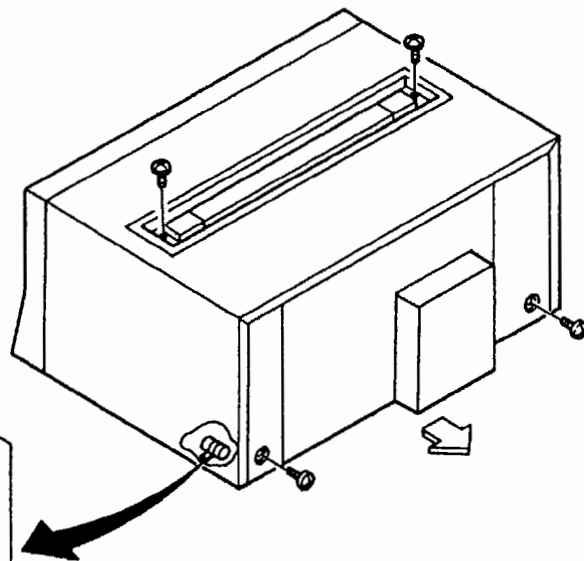

Figure 6.18
- (1) If the MAIN BAT error message is displayed while the power is turned on, replace the batteries.
- (2) Turn the power supply OFF and unscrew 4 screws; 2 on top of the recorder and 2 at the rear, using a Phillips screwdriver (Fig. 6.18).